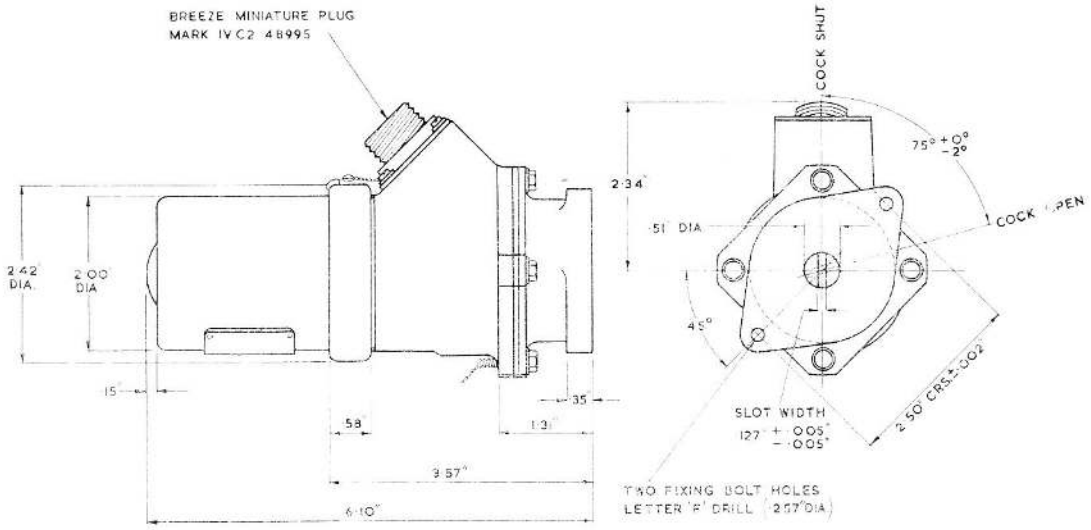

Fig. 1. Installation drawing
2. The snap action limit switches in the Mk. 18 are adjusted during assembly to permit 75 deg. angular travel of the coupling shaft. This adjustment requires the use of a manufacturers special rig, and no attempt should be made to alter the setting. Detail of the movement of the coupling shaft relative to the mounting flange is shown (fig. 1). The operating times under various loadings at nominal 28 volt, is as follows :—